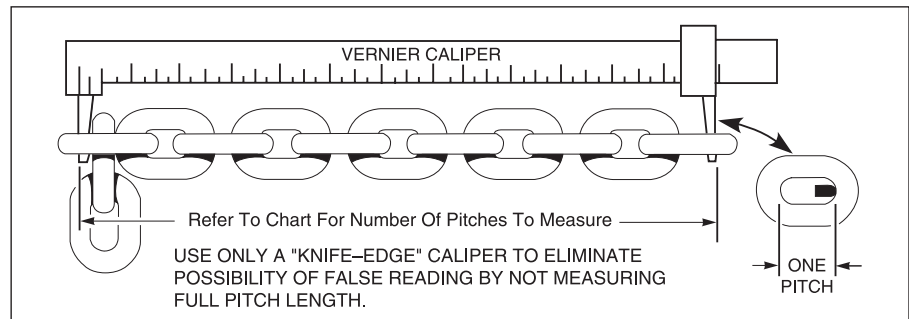

Figure 10– Checking Coil Chain Using Vernier Caliper
1. Coil type load chain. Clean chain for inspection. Examine visually for gouges, nicks, weld splatter, corrosion or distorted links. Slacken chain and check bearing surface between links for wear, Figure 9. Greatest wear will often occur at sprocket at high or low point of lift, particularly when hoist is subjected to repetitive lifting cycles. Case hardness of chain is approximately .015" deep. Chain must be replaced before the case is worn through. Also check chain for elongation using a vernier caliper (See Figure 10). Select an unused, unstretched section of chain (usually at the loose end). Suspend the chain vertically under tension and using a blade type caliper gauge, measure the outside length of any convenient number of links approximately 12" to 24". Measure the same number of links in the use sections and calculate the percentage in increased length. Replace if length of the used portion is more than 1 1/2% longer than the unused portion of the chain. Based upon ASME B30.16. Chain with excessively pitted, corroded, nicked, gouged, twisted or worn links should be replaced using only factory approved chain. Never weld or attempt to repair coil chain.